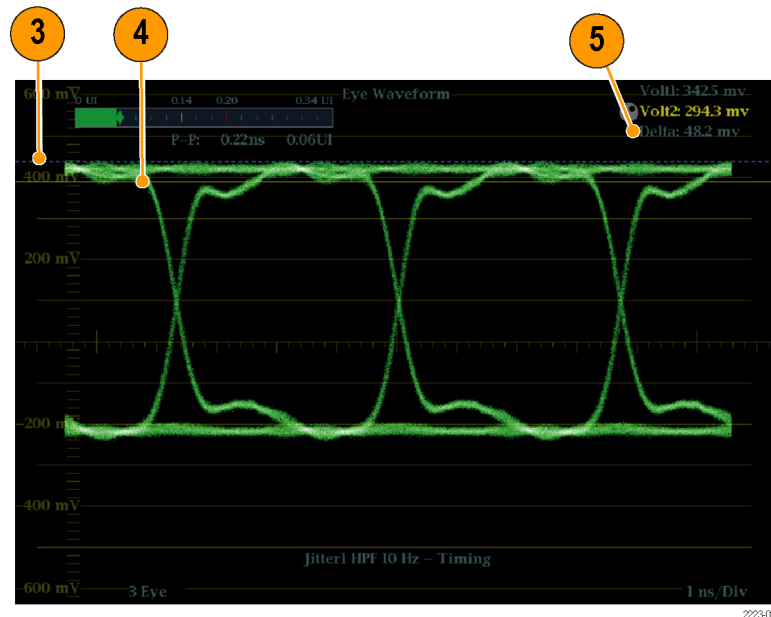

Figure 50: Using cursors to measure aberrations in the Eye pattern
3. Position one voltage cursor at the peak of the overshoot at the top horizontal part of the waveform. (See Figure 50.)
4. Position the second voltage cursor at the bottom of the top line of the waveform. Include any ringing (the oscillation following overshoot) in the measurement. Essentially, you are measuring the thickness of the top line of the waveform. (See Figure 50.)
5. Note the amplitude of the aberration displayed in the Voltage Cursor readout. (See Figure 50.)